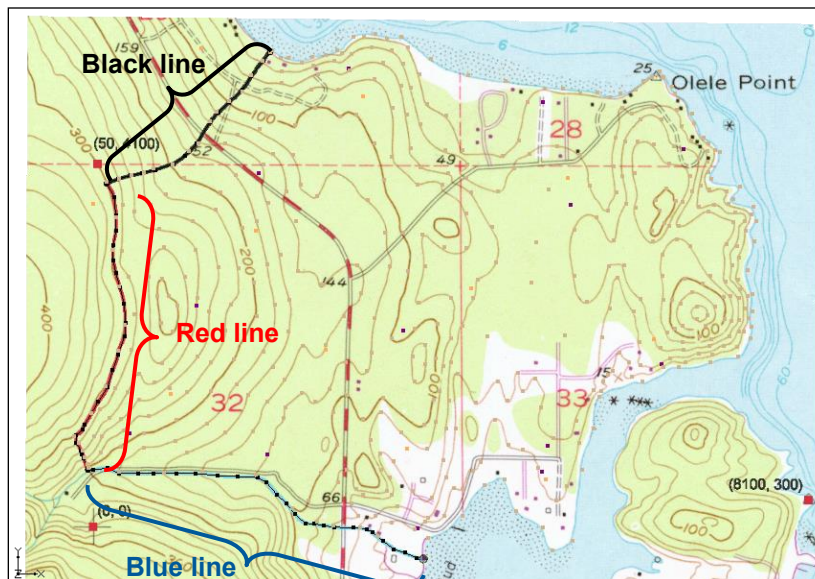

Figure 1 First three boundary arcs
At this stage, begin creating the arcs that define the model boundary. As shown in Figure 1, the three boundaries on the left are marked on the background image and are color-coded for reference.
2. Using the **Create Arc**  tool, click to place a series of vertices along the black line, double-clicking to end the arc (black line in Figure 1).
- Click to place a series of vertices along the red line, double-clicking to end the arc (red line in Figure 1).
- Click to place a series of vertices along the blue line, double-clicking to end the arc (blue line in Figure 1).
1. Using the **Select Arcs**  tool, hold down the *Shift* key and select the coastline arc and the stream arc (the blue one in Figure 1).